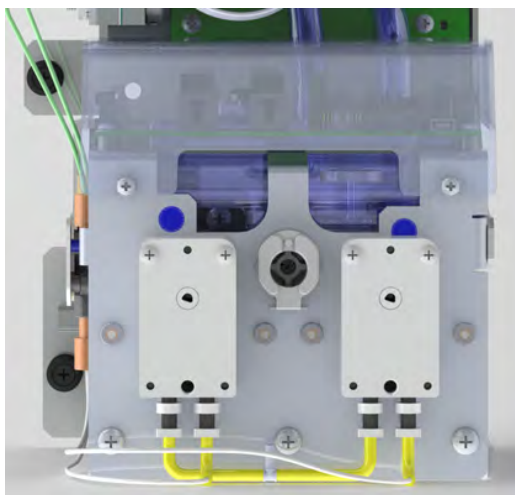

Figure 18: Viewing the Reservoir Water Level
7. View the reservoir water level and verify that the water level reaches **JUST BELOW** the top of the reservoir, as shown in Figure 18.